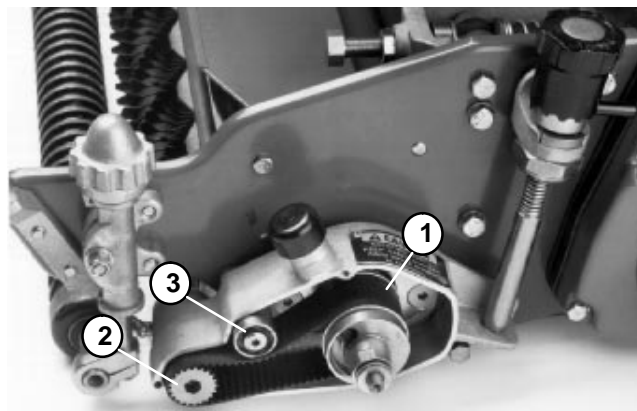

Figure 10
5. Reinstall drive belt onto the driven pulley. Adjust drive belt tension (see Drive Belt Tension in Adjustments section) and torque socket head cap screw from 7 to 10 ft-lb (1.0 to 1.4 kg-m) (Fig. 10).